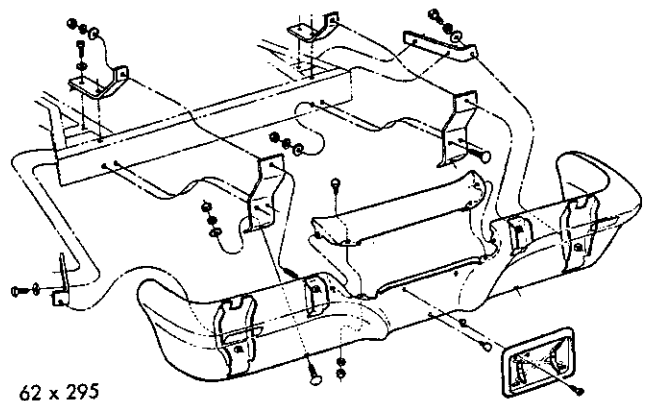

Fig. 98—Disassembled Rear Bumper (Imperial)
- (1) Position the parking lamps on the bumper and install the mounting bolts securely.
- (2) Install the bumper center section on the bumper.
- (3) Carefully position the bumper assembly on the support arms and install the mounting bolts. Do not tighten the support arm bolts until the bumper is correctly aligned. Tighten the bolts securely.
- (4) Connect the parking lamp wires.
**BUMPER—REAR (Fig. 98) (IMPERIAL MODELS)****a. Removal**
- (1) Remove the screws attaching the license plate lamp to the rear bumper and slide the lamp up out of the way. Disconnect the back-up light wires.
- (2) Remove the grommet from the deck lid lower panel (one each side of center). Remove the nut from the two upper studs. Remove the nuts from exposed